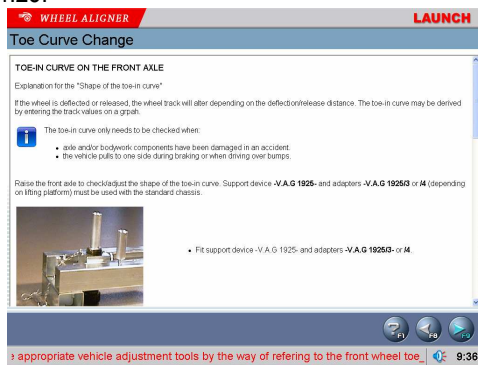

Fig.4.25
, the screen will display the interface as shown in Fig.4.25.
1. Click [Toe-in Curve Change] on the interface of [Front Axle Measurement] to enter Toe-in Curve Change interface as shown in Fig.4.25.